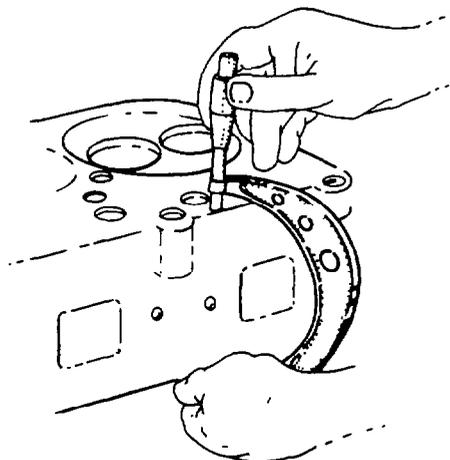

Fig. 4 — Measuring Cylinder Head
- c. If the cylinder head requires machining, check the thickness of the head with a micrometer; the standard minimum thickness of the head is 117.49 mm (4.622 in.). The head may be machined a maximum of 0.508 mm (0.020 in.) under the standard minimum thickness. If the head is still not true after having the maximum amount removed, the head is unserviceable (see fig. 4).